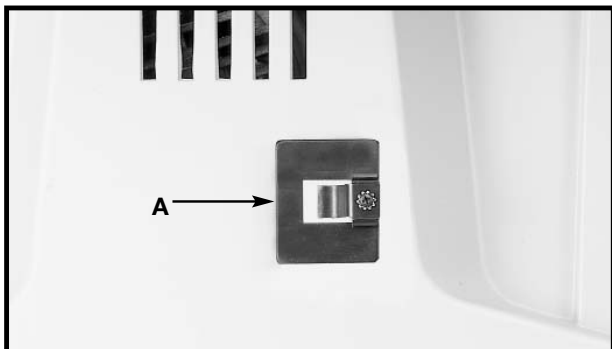
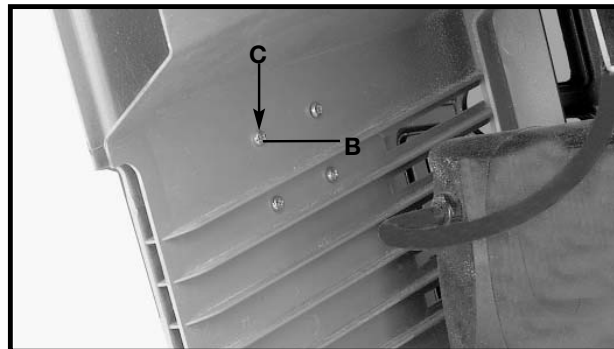

Fig. 7
Fig. 8
2. Attach the miter gauge holder (A) Fig. 7 to the left side of the saw cabinet using the four M4x.2x10mm screws (B) Fig. 8, and 3/16" flat washers (C) from inside of the saw cabinet.